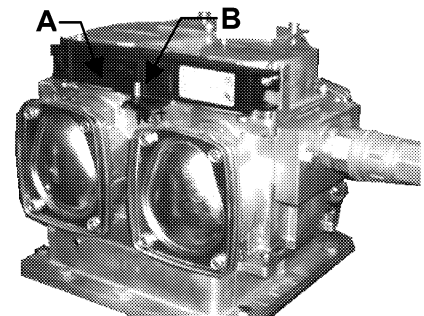

Figure 20 Calibration door
2. Open the calibration door for the first meter (A-side or B-side) that should be calibrated (see Figure 20). If several meters deliver to one nozzle, please check, with a screwdriver, which solenoid valve is open and open the corresponding calibration door. Make sure that the door is fully opened.
6. If several meters deliver to one nozzle repeat the procedure from item 1 for the other meter. (Switch to the next meter by Function 1 and select mode 4 once again.)